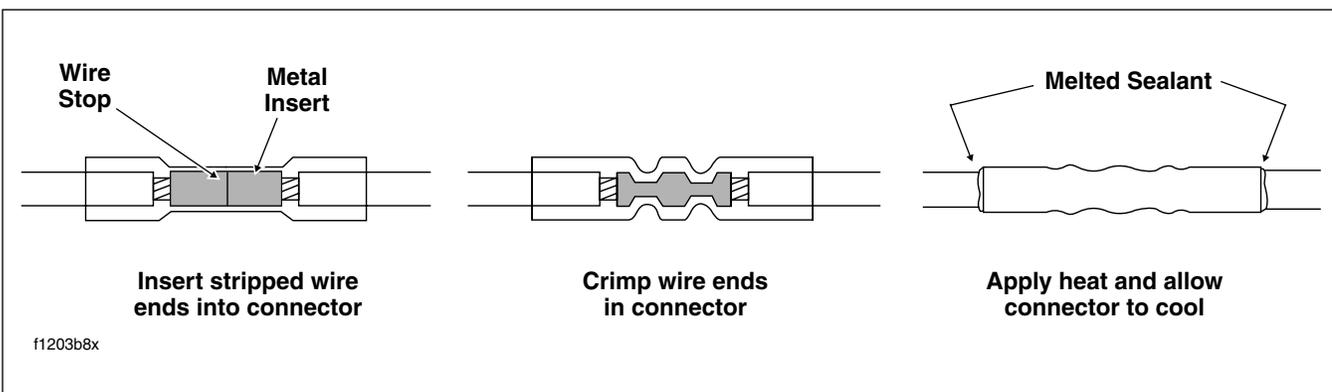

Figure 8-40. Installing Sealed Butt Splice Connectors
6. See Figure 8-40. Feed the wire into the butt splice connector until the stripped end contacts the wire stop inside the metal insert.
9. Using the UltraTorch UT-100 (HD-39969), Robinair Heat Gun (HD-2507 41183) or other suitable radiant heating device, heat the crimped splice to encapsulate the butt splice connection. Apply heat from the center of the crimp out to each end until the meltable sealant exudes out both ends of the connector. See Figure 8-40.